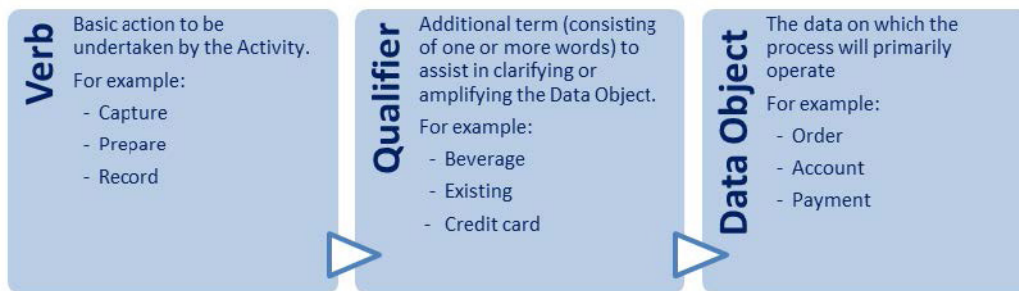

Figure 13: Recommended Process Name Approach
- A "Verb Qualifier Object" approach to naming your processes and activities (figure 13)